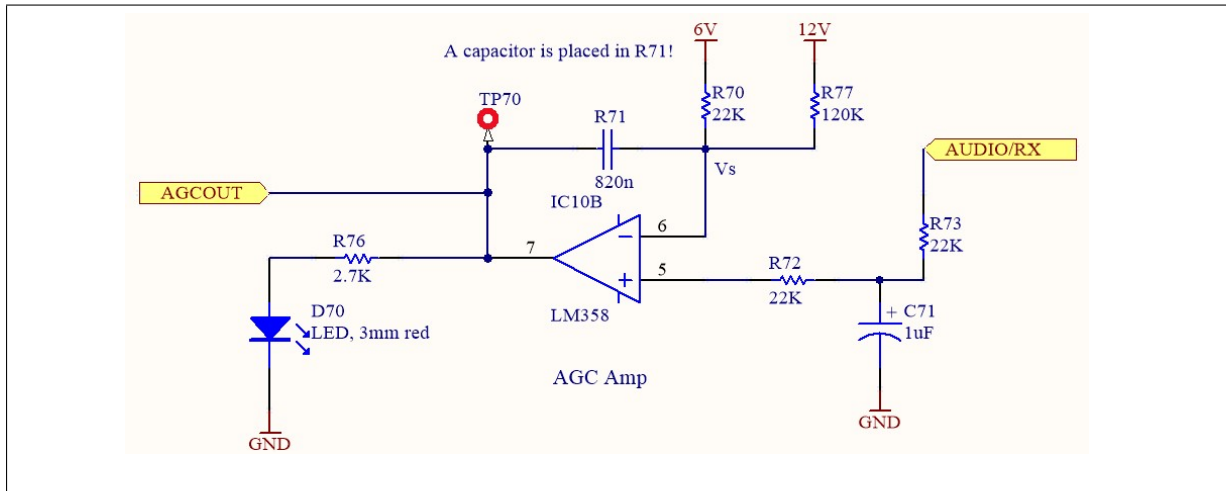

Figure 4: Automatic gain control circuit.
- The automatic gain control (AGC) circuit of TRC-11 is given in Fig. 4.
1. Now, we are ready to incorporate the automatic gain control (AGC) circuitry to prevent saturation of the IF amplifiers. Refer to Fig. 4. Place R70, R72, R73, R77, and D71. Watch the direction of the PIN diode. Solder them. Cut the leads on the back side.